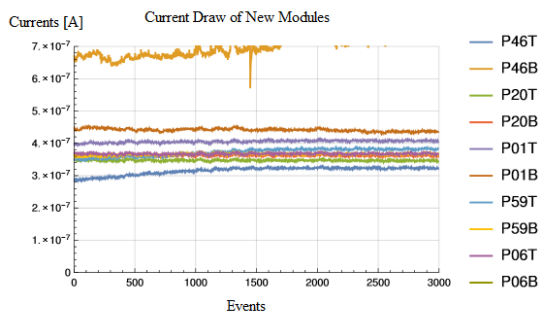
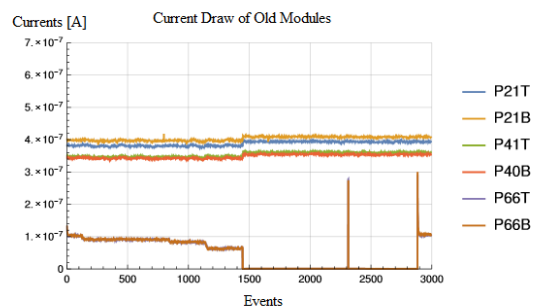

Fig. 1 Current draw of five new modules over three weeks.
Fig. 2 Current draw of three old modules over three weeks.
- ★ Total current draws of five new modules (Fig 1) and total current draws of three old modules (Fig 2).